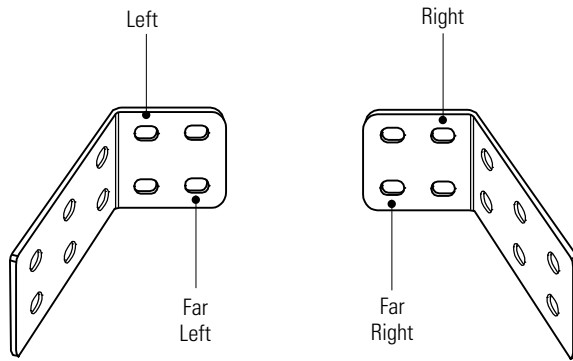

Figure 4. Positioning, Left-to-Right
1. Determine the left-to-right position and select the appropriate orientation and mounting holes on the short flange (see Figure 4).